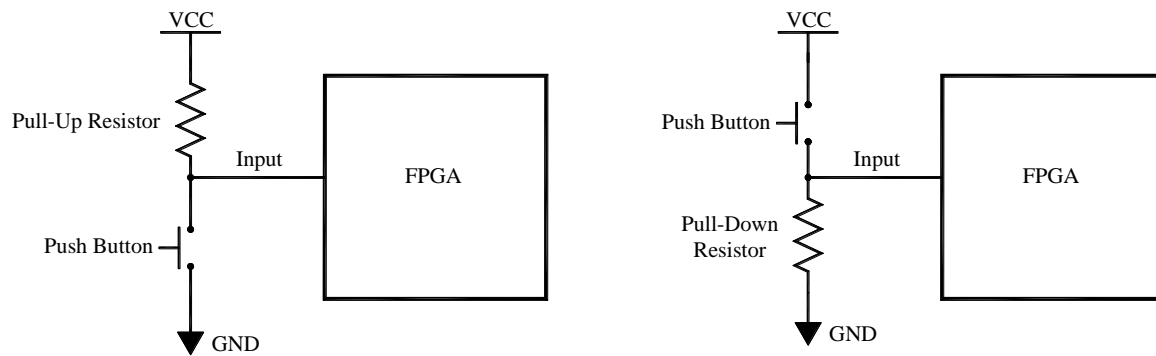

Figure 1.1: Pull-Up and Pull-Down Resistor examples
3. **Pull-up/Pull-down Resistors:** Inputs that are not constantly driven high or low by logic should never be left floating (not connected to anything), because signal fluctuations on floating pins can cause HIGH or LOW inputs to be mistakenly read, leading to undefined behavior. Pull-up/down resistors prevent this issue by tying inputs to either VCC or GND so that when the input isn't being driven externally, the input is at a fixed logic level. The resistance is large enough that it will be negligible when an input is connected. Figure 1.1 shows examples of Pull-Up and Pull-Down Resistors.